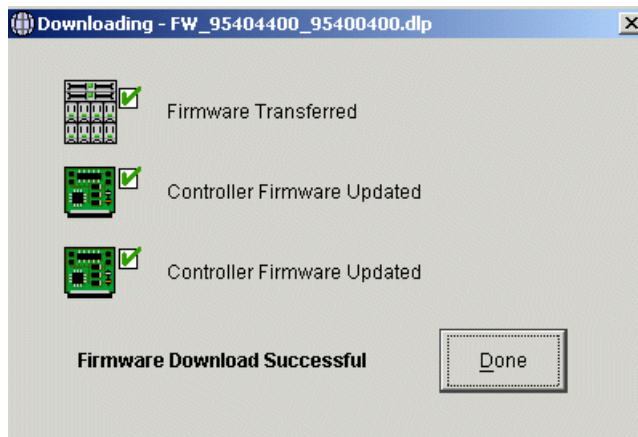

Figure 11-4 Download of firmware completed
3. The firmware upgrade continues. You can follow the process as shown in the Downloading window (Figure 11-4). The entire download process can take several minutes to finish.